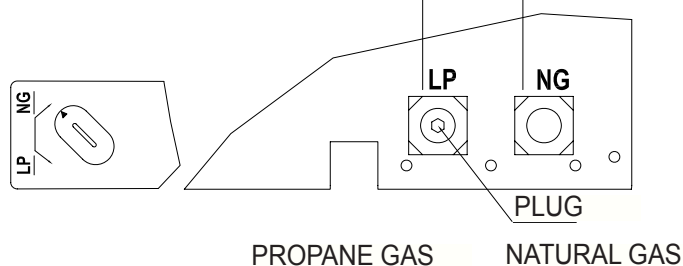

Fig. 15
2. For NATURAL GAS, press in knob using a flat screwdriver with a blade the width of a quarter and turn knob clockwise ↻ until the knob locks into the NG position (see Fig. 15). Fuel selection device must be locked in the NG position. Do not operate heater between locked positions.